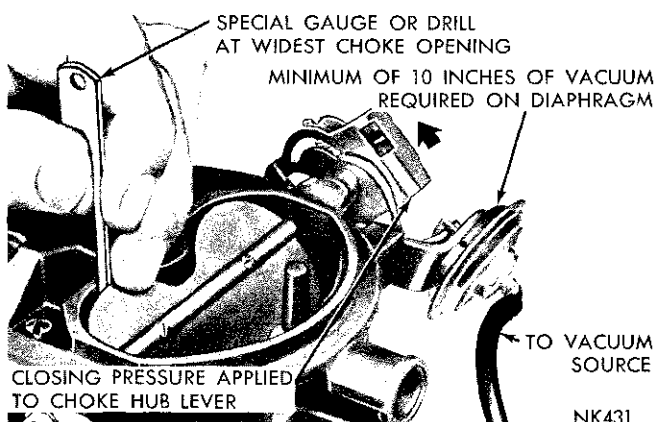

Fig. 18—Checking the Vacuum Kick Setting
(1) With the engine **Not** running, open the throttle valves far enough to allow the choke valve to be moved to the closed position.
(2) Disconnect the vacuum hose from the diaphragm and connect the hose from the vacuum supply, as shown in (Fig. 18). (A minimum of 10 inches of mercury (HG) will be required.)
(3) Insert a NO. 17 drill or gauge T109-205 (Manual Trans.) or a NO. 35 drill (Auto. Trans.) between the choke valve and the wall of the air horn. Refer to (Fig. 18). Apply sufficient closing pressure on the choke shaft lever to provide the smallest opening possible, without distortion of the diaphragm link. Note that the link must deflect a wire spring before it reaches the end of travel within the lever slot. The link must travel to the end of the slot for proper measurement of the kick adjustment.
(4) An adjustment will be necessary if a slight drag is not obtained as the drill or gauge is being removed.
(7) Install the choke operating link and recheck the choke valve opening, using a gauge or drill. Refer to (Fig. 18).